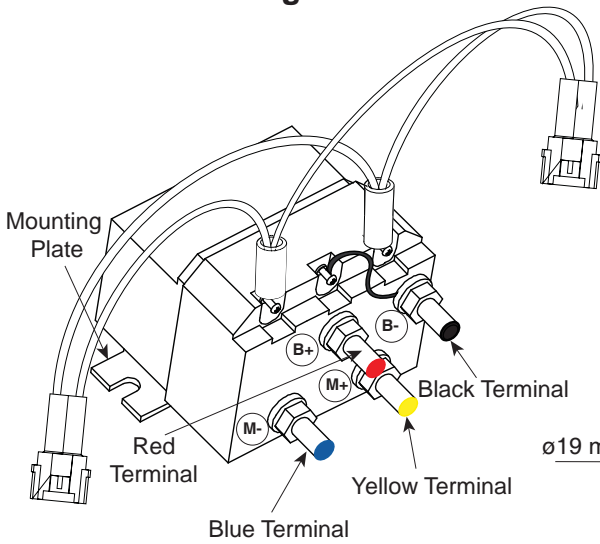

Figure: 3
6. Cable colors should be matched with the contact terminal color codes (M+, M-, B+, B-) as shown in the figure 3.